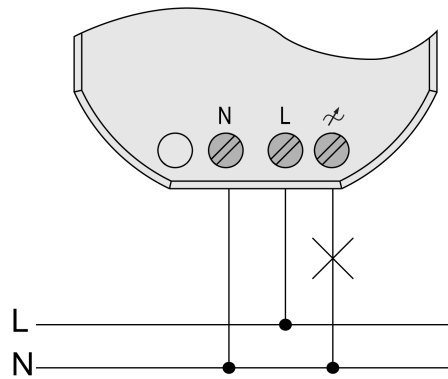

Figure 5: Connection of load
- Connect load as shown in the connection example (Figure 5).